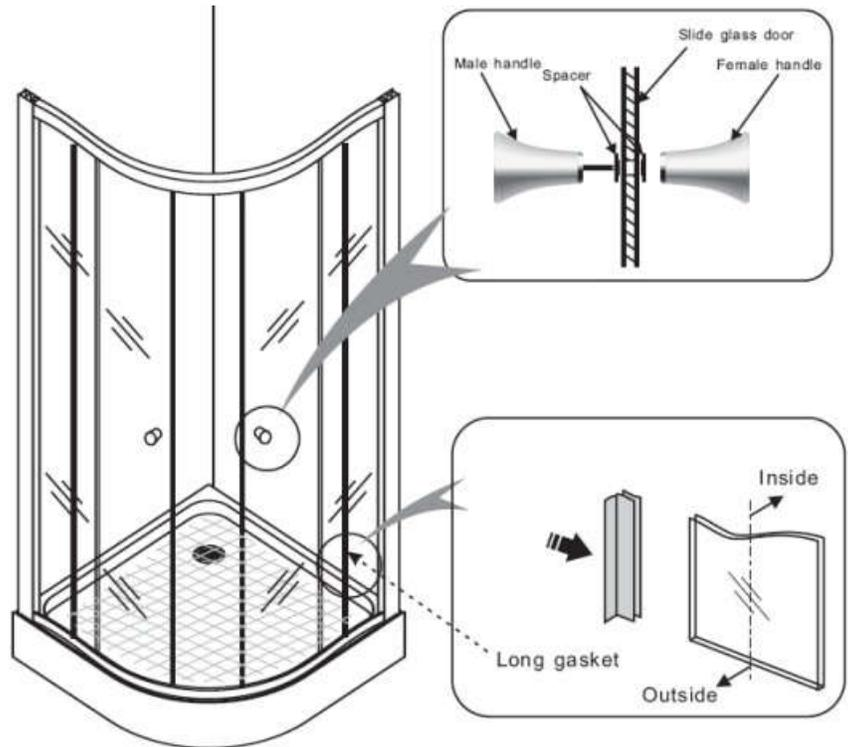

Figure 9
- Install the handles on to the door as shown in figure 9.
- Snap in the long gasket seal onto the inner sides of moving centre glass panel as shown in detail of figure 9.